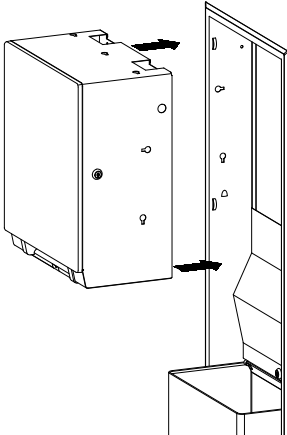

Figure 2
2. Carefully slide new Modular Housing Assembly into the cabinet and support it from underneath with one hand. (See Figure 2)